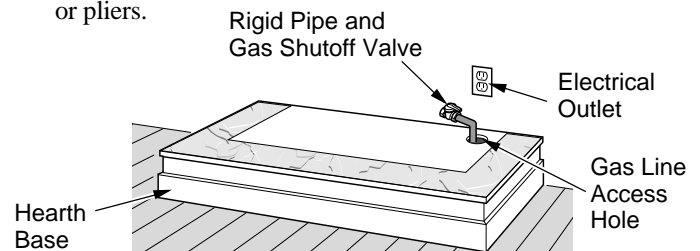

Figure 9 - Placing Hearth Base Accessory Against Wall
2. When installing blower, install a properly grounded, 120 volt three-prong electrical outlet at fireplace location if an outlet is not there. If possible, locate outlet so cabinet mantel will cover it when installed (see Figure 9).
4. Place hearth base accessory against wall at installation location. Cut an access hole in hearth top to run gas line to fireplace (see Figure 9). Make sure to locate access hole so cabinet mantel will cover it when installed. *Note:* You can secure base to floor using wood screws. Countersink screw heads and putty over.